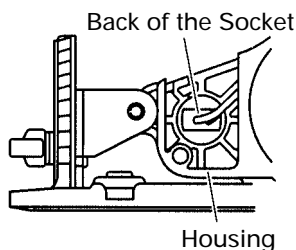

Fig. 22
- (2) Push the back of the socket, and remove the socket and the light bulb together from the housing. (Fig. 22)